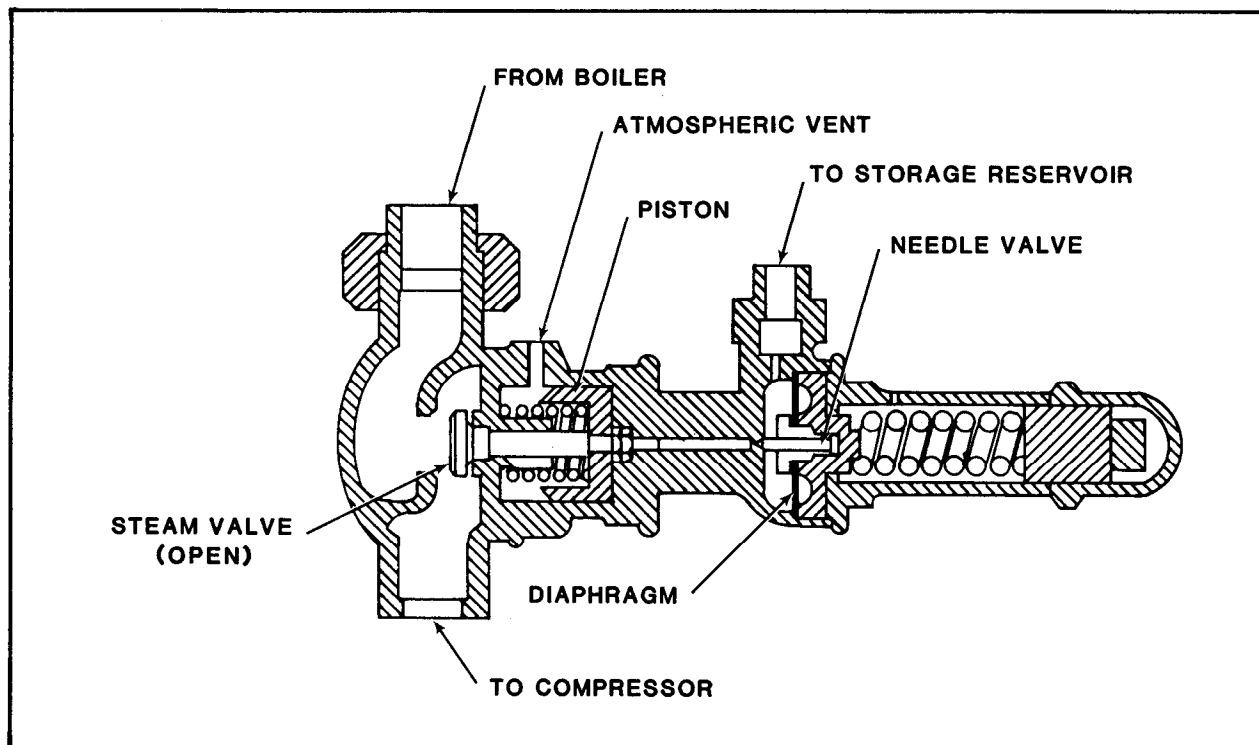

FIGURE 5-1. Automatic Start-Stop Governor
1.1.3 Automatic Start-Stop Governors. Automatic start-stop governors (figure 5-1) are also used on steam-driven compressors. This governor has a spring-loaded diaphragm, the underside of which is always open to receiver pressure. When receiver pressure becomes greater than the spring pressure above the diaphragm, the diaphragm is raised, unseating the needle valve. Air then flows to the chamber above the piston attached to the steam valve. Air pressure on this piston forces the steam valve to its seat, cutting off the flow of steam to the compressor. With a decrease in steam pressure, the valve operates in reverse to readmit steam to the cylinder.